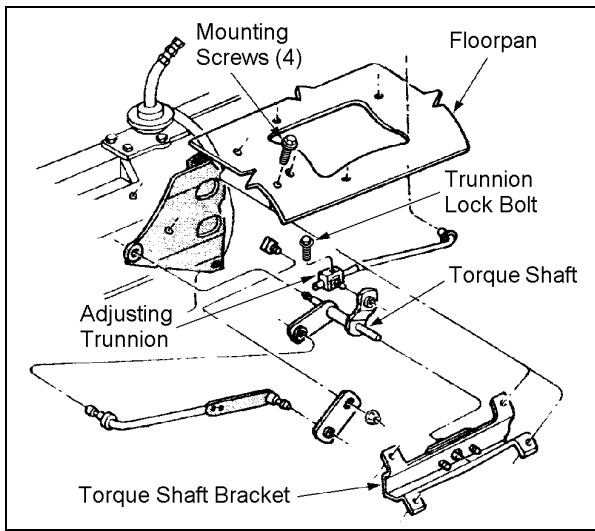

Figure 13
2. Remove the four screws that attach the torque shaft bracket to the floor pan. See figure 13.